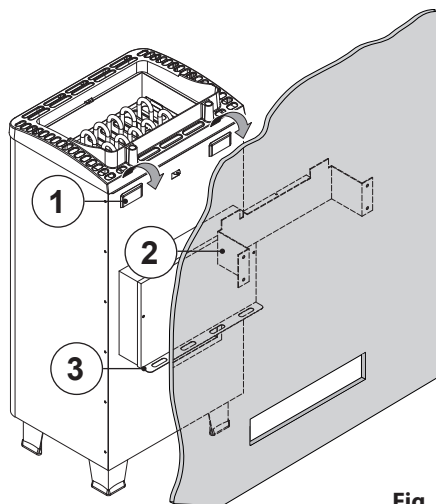

Fig. 5
- Hook the sauna heating unit into the wall mounting using (1) the mounting slots on the rear wall (2) and place against the spacer (3), (Fig. 5).